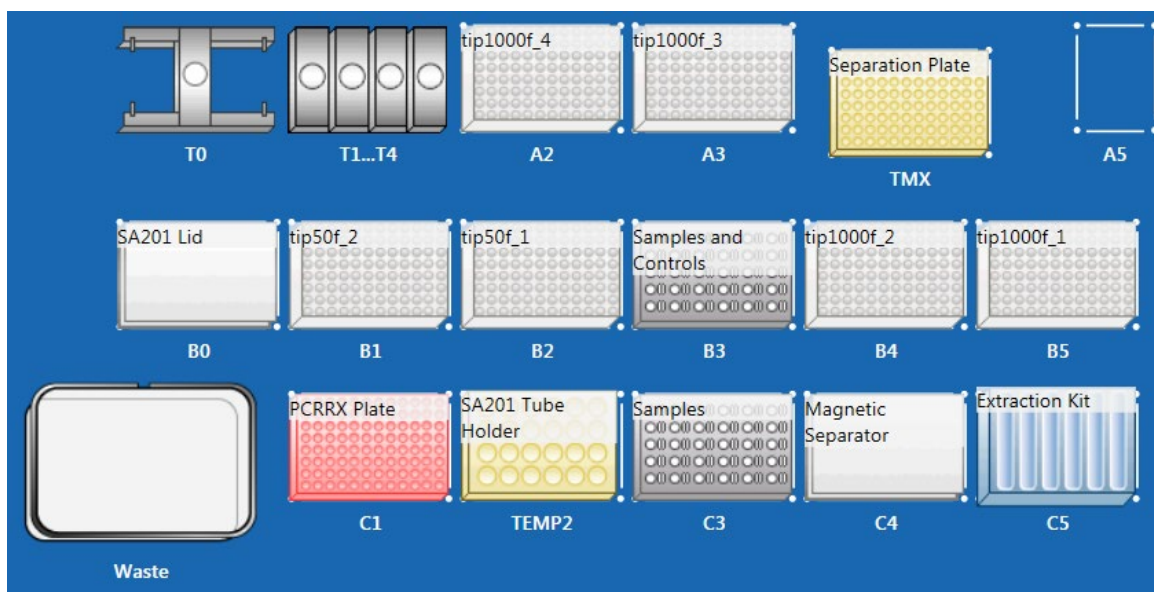

Figure 1. Layout of the *Sentosa*® SX101 platform for 96 tests
Figure 1 shows the positions of consumables / labware on the *Sentosa*® SX101 platform. Double line the *Sentosa*® SX Waste Bin with biohazard bags. Please refer to the layout as indicated by the *Sentosa*® SX101 instrument software or the appendix to load all items in the correct positions.
- 2.5. Place the correct *Sentosa*® SX Reservoirs and Modules into positions 1 to 7 of the *Sentosa*® SX Reservoir Rack 7 (refer to **Figure 1**, TEMP2) according to the table below.
- 2.10. Set the MicroAmp® Fast Optical 96-Well Reaction Plate with Barcode, 0.1 mL on the epMotion® Thermoblock for PCR 96 Wells Thermoblock PCR 96, and place the assembly on position C1 of the *Sentosa*® SX101 platform (refer to **Figure 1**).
- 2.11. Load the *Sentosa*® SX Non-Partition 1000 µL Filter Tips, *Sentosa*® SX Deepwell Plate 96/2000 µL, *Sentosa*® SX Non-Partition 50 µL Filter Tips and *Sentosa*® SX Magnetic Separator on the *Sentosa*® SX101 platform. Please refer to the layout as indicated by the *Sentosa*® SX101 instrument software (see **Figure 1**) or the appendix to load all items in the correct positions.